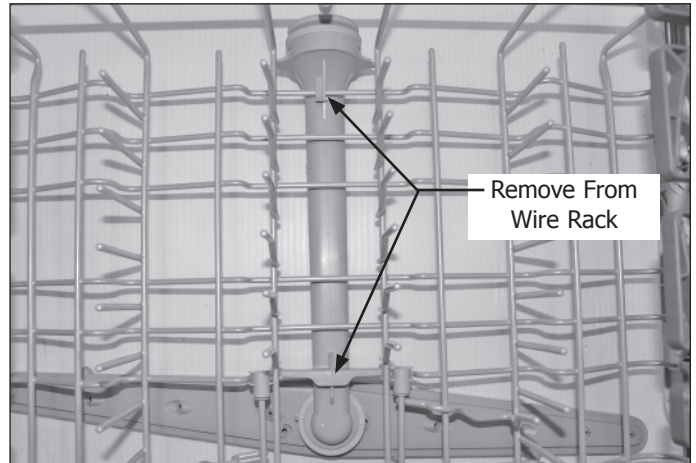

Figure 4-18.
3. Slide the spray arm assembly towards the rear of the upper rack to disengage the retaining clips securing the assembly to the wire rack. (See Figure 4-18)